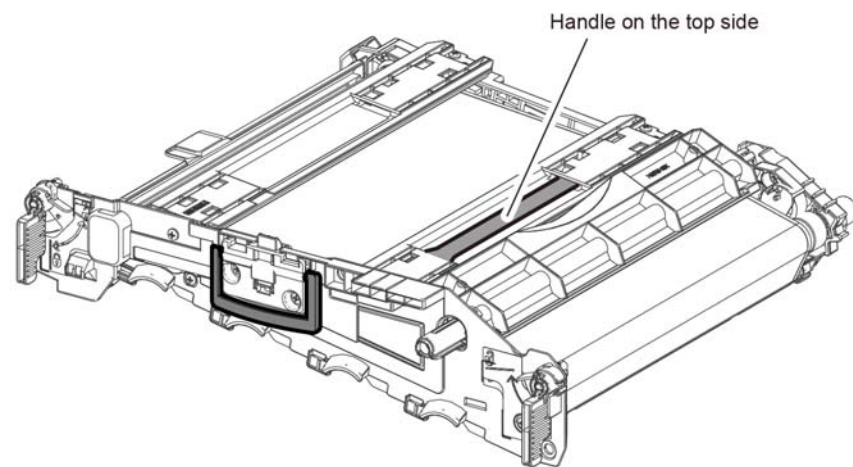

Figure 1 Handle Locations on the Transfer Belt Unit
NOTE: In the following step, do not grasp the foam on Transfer Belt Unit Cover when replacing the Transfer Unit. Grasp the Transfer Belt Unit Handles (see Figure 1).
5. Refer to Figure 1 to remove the four screws attaching the Transfer Belt Unit, PL 6.1 Item 1 and remove the Transfer Belt Unit from the rails. Remove only the screws seated against the metal frame as shown in the figure.